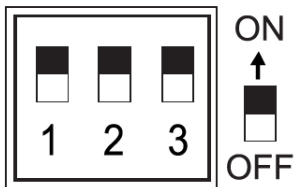

Fig. 1
- Using the DIP switches, please set the current of the driver to match the load connected to it, see Fig. 1 for DIP switch layout and luminaires compatible.